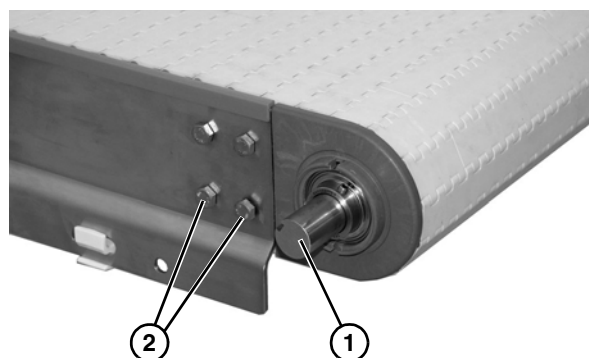

Figure 4
- b. For assembly on drive tail: Locate conveyor drive shaft (**Figure 4, item 1**). Remove two lower bolts (**Figure 4, item 2**).